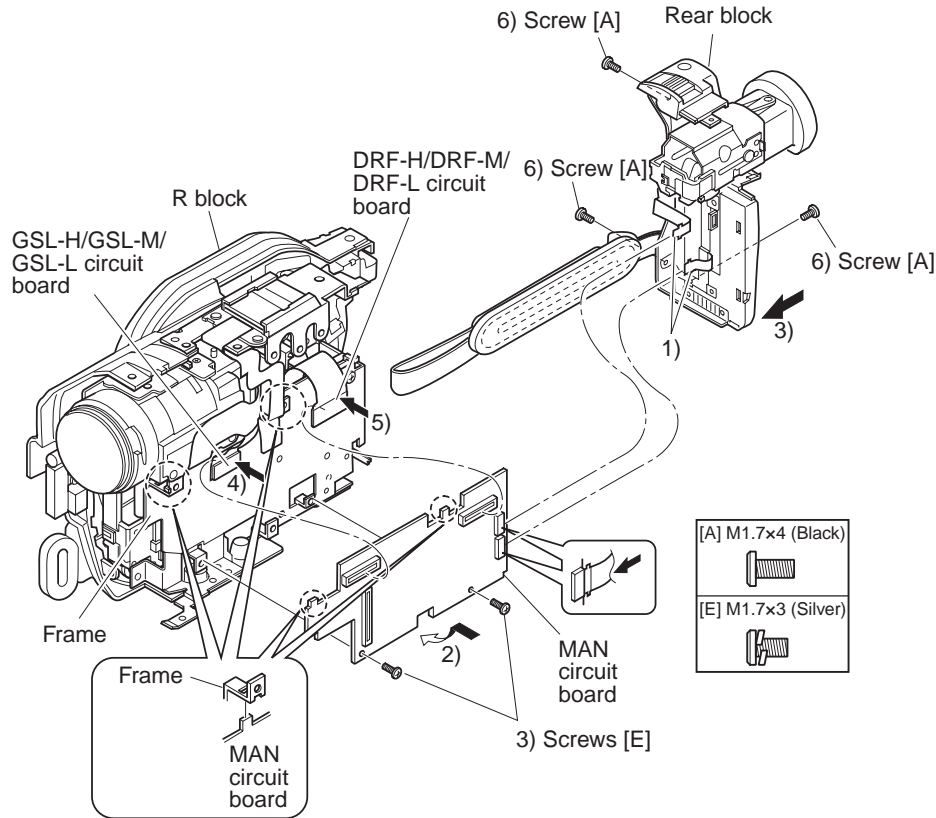

Fig. 4-6-2 Setting to Service Position (A)
- 1) Connect the two flat cables of rear block to the MAN circuit board (Fig. 4-6-2).
- 1) Attach the MAN circuit board and rear block to the R block, referring to "(1) Setting to service position (A) (Fig. 4-6-2)".